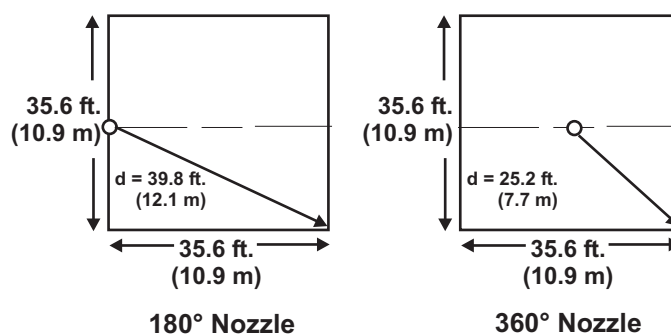

Figure 3-2. Nozzle Placement and Coverage
- **180° Nozzles**-180° nozzles must be located 6 +/- 2 inches (0.3 +/- 0.05 m) from a wall, with the orifices directed away from the wall. The nozzle shall be located as close to the center of the wall as possible, but at least 1/3 of the way along the wall. 180° nozzles have a maximum coverage area defined as a square that can be inscribed in a semicircle of distance 39.8 ft. (12.1 m, diagonal of a rectangle 17.8' x 35.6'). Refer to Figure 3-2 for further information. 180° nozzles may be used in a back-to-back configuration. The nozzles should be placed 1 to 2 ft. (0.3 m to 0.6 m) apart.
- **360° Nozzles**-360° nozzles must be located as close to the center of the enclosure as possible. 360° nozzles have a maximum coverage area defined as any square that can be inscribed in a circle of radius 25.2 ft. (7.7 m, diagonal of a square 17.8' x 17.8'). Refer to Figure 3-2 for further information.